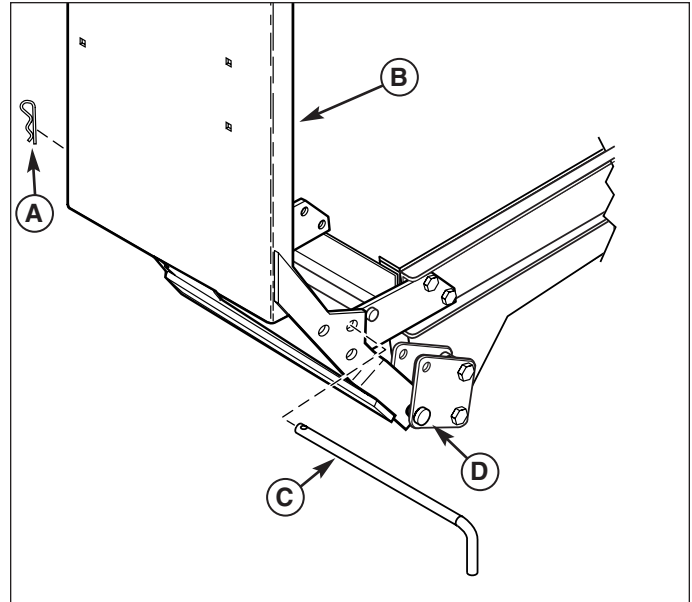

Figure 19. Install Back Plate, without 3-Point Hitch
1. Set the front and back plate assembly on the pins (Figure 19).
2. Secure with the long hitch pin (C, Figure 19)